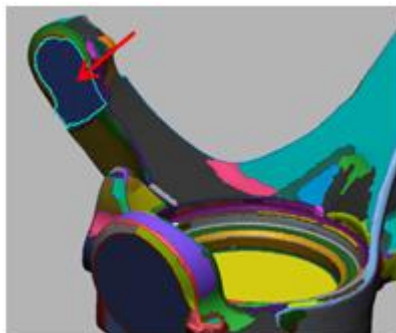

Figure 283
4. Select the region shown in **Figure 283**.